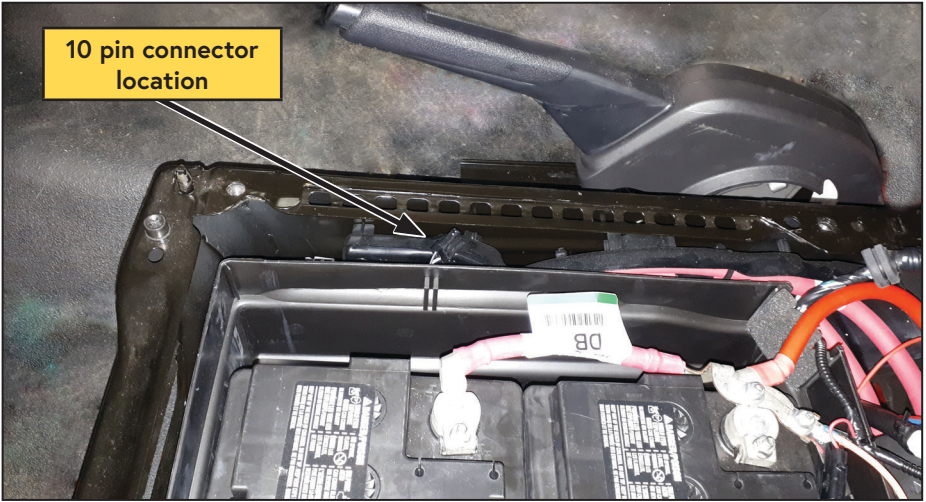

Figure 58 — Connect key switched power
- Locate the 10 pin connector between the positive side of the batteries and the battery box (Figure 58).